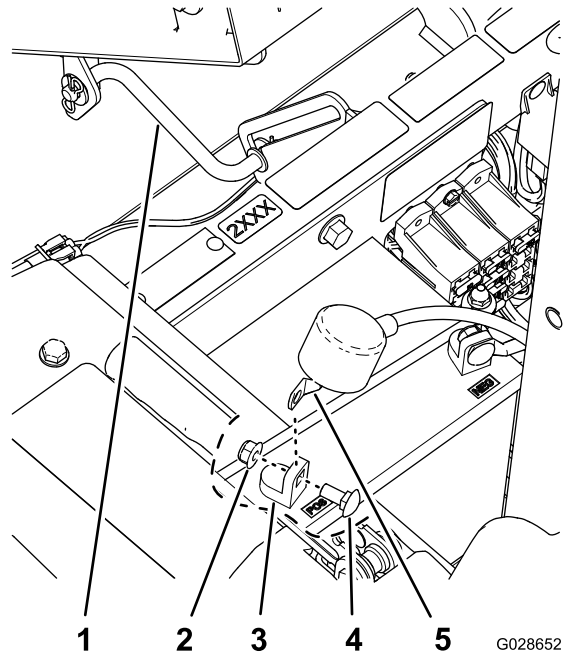

Figure 28
1. Tilt the operator's seat forward and secure it with the prop rod (Figure 28).
2. Remove the flanged locknut, carriage bolt, and positive battery cable from the battery (Figure 28).
3. Connect the positive battery cable to the battery (Figure 28).
4. Lower the operator's seat (Figure 28).